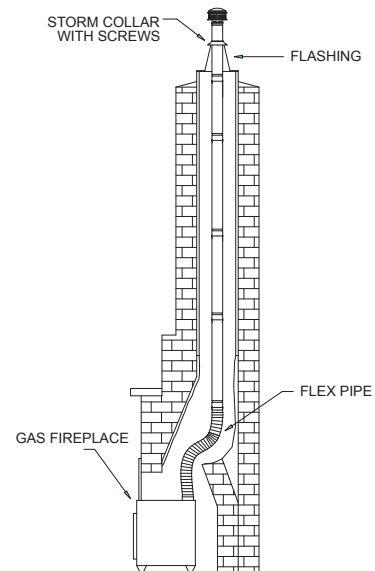
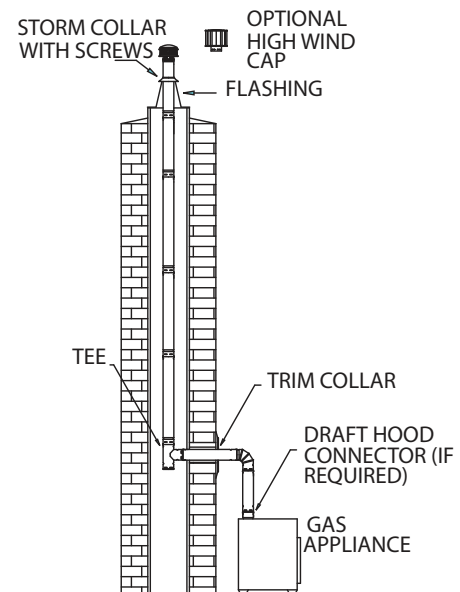

Figure 24
Figure 30
1. Description. A masonry chimney should be relined with B-Vent when venting a Category I gas appliance, such as a gas fireplace insert or freestanding gas stove, or to improve the venting and reduce condensation of existing gas appliances which are currently venting into the masonry chimney. These instructions encompass two general configurations: (1) A gas fireplace situated inside an existing masonry fireplace (**Figure 24**) or (2), a freestanding gas appliance venting into an existing masonry chimney. (**Figure 30**)
(a). Locate Appliance. Set the appliance in its desired position, and mark the center of the hole where the lateral Pipe Section is to pierce the masonry chimney. Ensure the manufacturer's requirements have been followed, particularly in regards to distances from combustible surfaces. Refer to **Figure 30**.
(c). Tee. A Tee is installed at the bottom end of the assembled vertical Pipe Sections, as shown in Figure 30. The Tee has a removable Tee Cap at the bottom, for cleaning and condensate removal. If the configuration of the building permits it, a clean-out access gate is recommended.
(h). Horizontal Pipe Section(s). Run the horizontal Pipe Section(s) through the hole in the masonry, and connect it firmly to the Tee, either by reaching through the hole, and holding the Tee while twisting the Pipe Section, or by holding the Tee through the access door while someone twist-locks the Pipe Section to it. Use an Adjustable Pipe Length as needed to obtain a specific location for the appliance. Make a mark on the horizontal Pipe Section flush with the vertical face of the masonry, for referencing the vertical position. Slip a Pipe Collar over the horizontal Pipe Section and install the remaining fittings as shown in **Figure 30**. A minimum of 12 inches of connector rise is required.